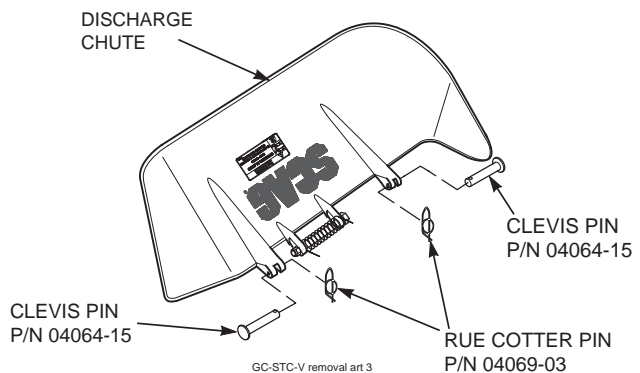

FIGURE 5-3
8. Re-install the side discharge chute to the opening on the cutter deck. Replace the two (2) outside mounting bolts on the discharge chute with the clevis pins (p/n 04064-15) and rue cotter pins (p/n 04069-03). See Figure 5-3.